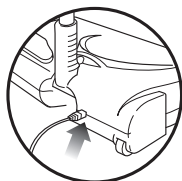

Fig. 4
- 2 Insert the charger plug into the hole on the back of the unit. Plug the charger into a wall outlet. The light next to the power button will illuminate when the unit is charging. If the unit is plugged in and the light is not illuminated, press the power button once. The light should now be illuminated indicating that the unit is charging. (Fig. 4) Once the charge is completed, the light will go off.